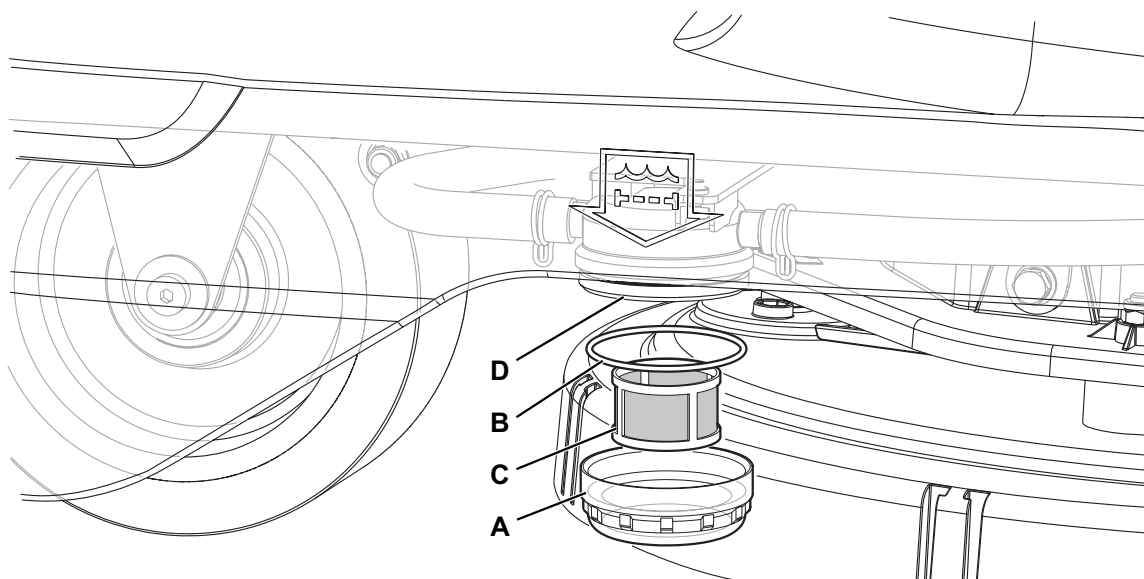

Figure 12
2. Ensure that the machine is off and the operator key (41) has been removed.
3. Close the solution tank valve (9). The valve is closed when it is in position (9-B) and it is open when it is in position (9-A).
4. Remove the transparent cover (A, Fig. 12), retrieve the gasket (B), then remove the filter strainer (C). Wash and rinse them with clean water, then refit them carefully onto the filter support (D).